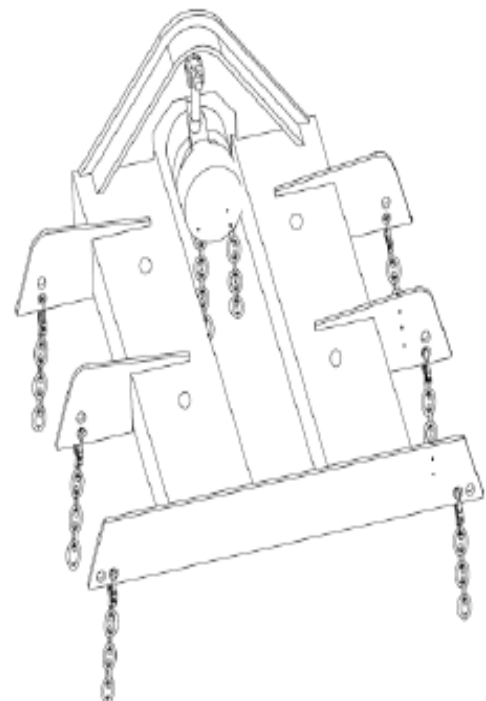

Fig:2 (Frame outline)
- Fig:2 and Fig:3 for reference.